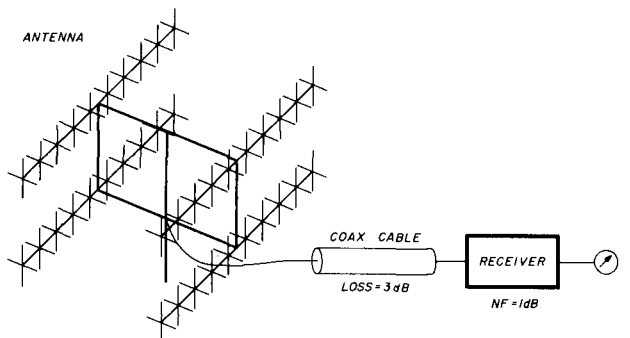

**fig. 11.** Antenna equivalent temperature as a function of frequency with natural noise as a parameter.
The relationship between the equivalent temperature of natural noise and frequency is shown in fig. 11. Using this relationship as a datum, let's discuss receiving systems using GaAs fet preamplifiers. (Understanding will be made easier if actual numerical values are inserted into eq. 16.)
An ideal antenna is assumed, whose noise temperature in the 432-MHz band is determined solely by natural noise. Then, from **fig. 11**:
**fig. 12.** 432-MHz receiving system used as an example for showing the relationship between natural noise and frequency. Antenna noise temperature,  $T_a$  (from **fig. 11**), is 48K at 432 MHz.